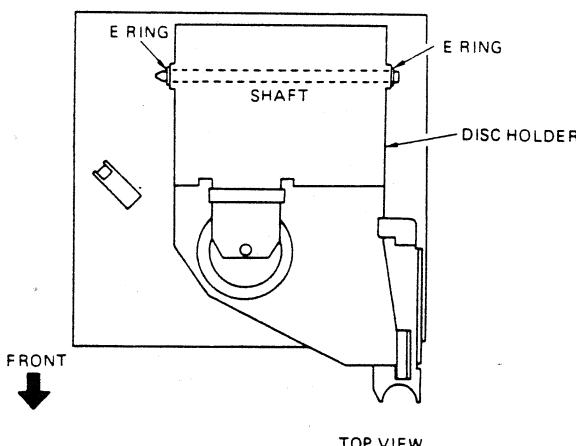

Fig. 12 TOP VIEW
- 1) Remove the E-ring, pull the shaft out and remove the disc holder. (Fig. 12)